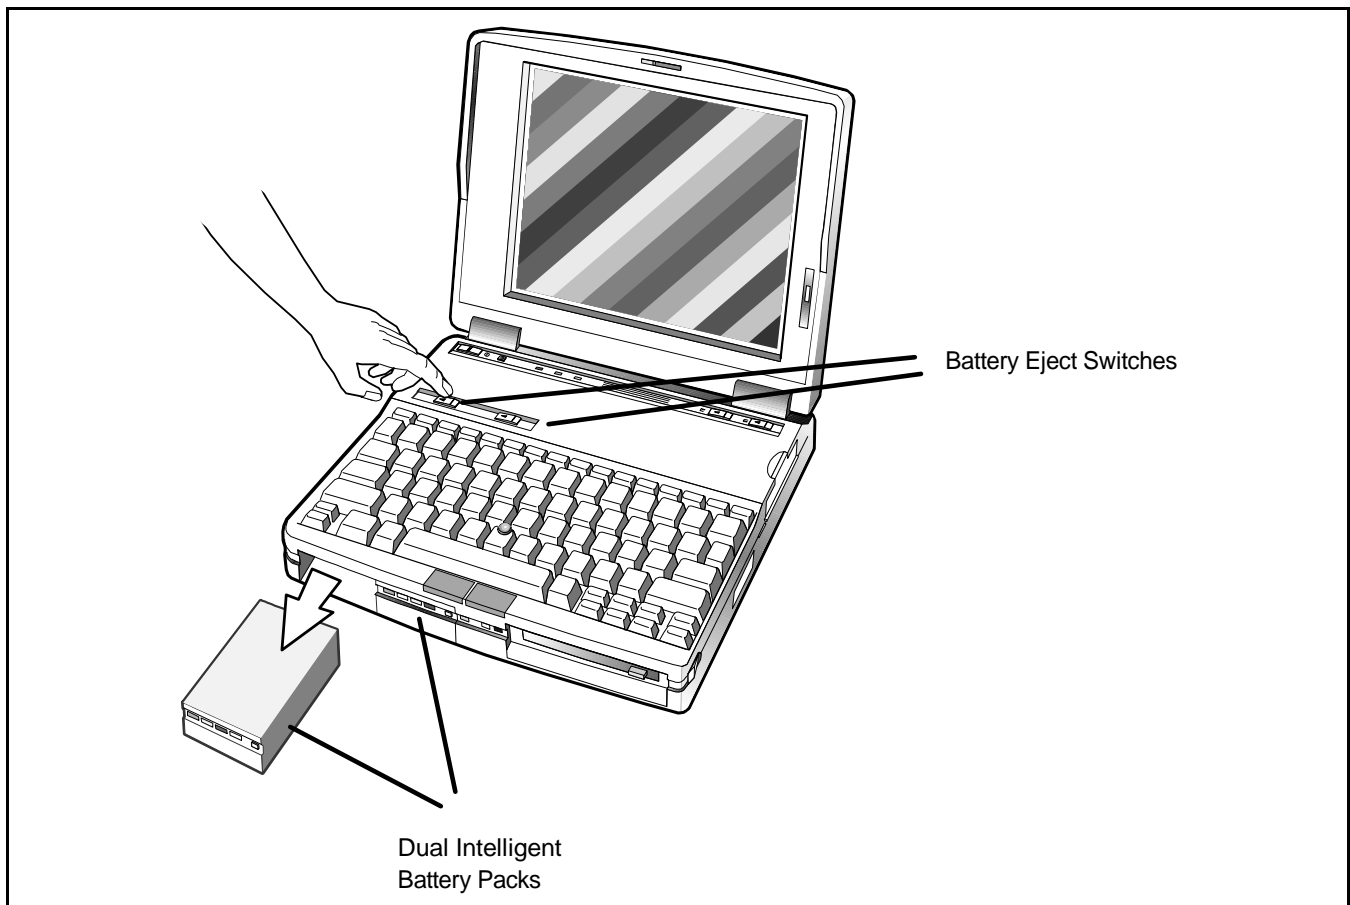

Figure 2-9 Battery Pack Removal/Replacement
As shown in Figure 2-9, the TM5000 Notebook has provisions for two Lithium-Ion battery packs.
2. Slide the battery release button and remove the selected battery as shown in Figure 2-9.